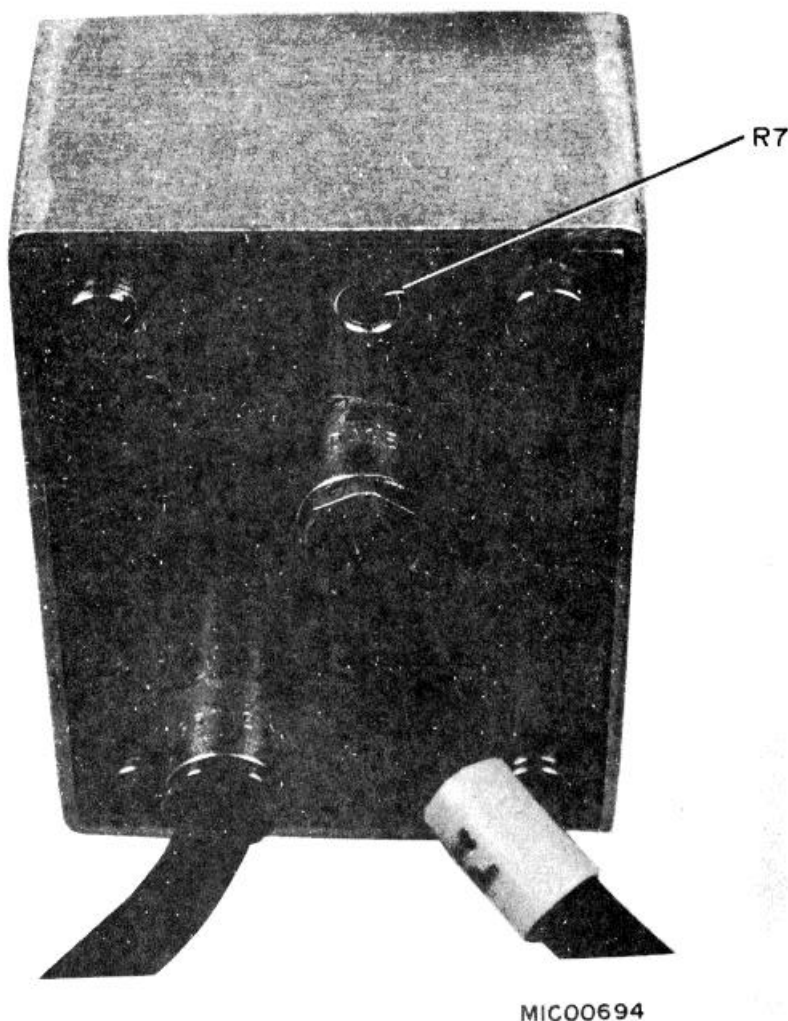

Figure 6-7. Preamplifier.
g. Adjust R7 (Fig. 6-7) on preamplifier until signal level meter indicates 50 microamperes.